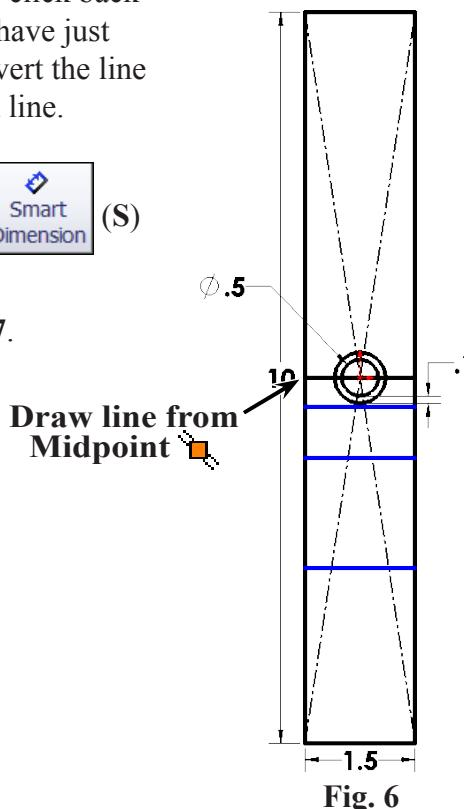

Fig. 6
Step 1. Click **Line**  (L) on the Sketch toolbar.
Step 2. Draw **4 horizontal lines** across sketch, Fig. 6.